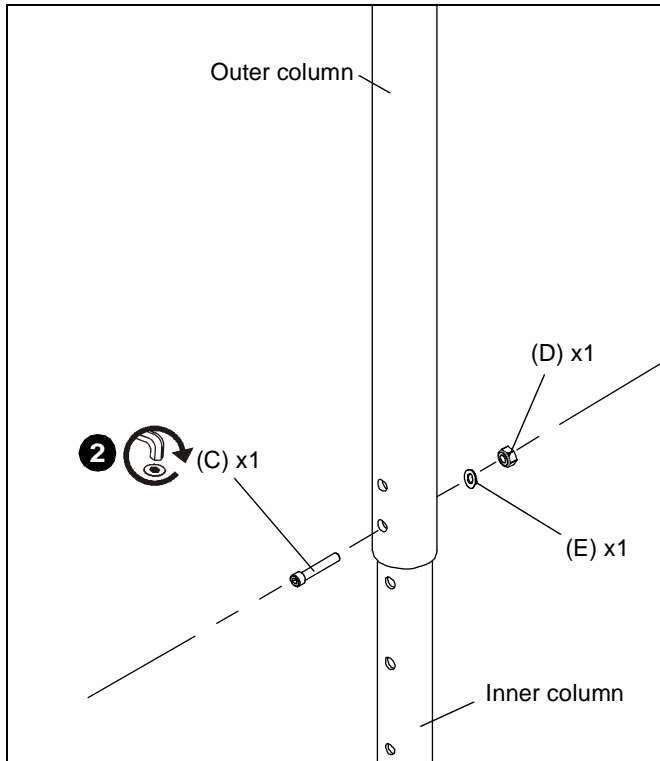

Figure 5
1. Slide inner column with attached display up from below into installed outer column. (See Figure 5)
2. Secure inner column into outer column at desired height using 1/4-20 x 1-1/2" socket head cap screw (C), 1/4" x 1/2" x .032" nylon washer (E) and 1/4-20 locknut (D). (See Figure 5)